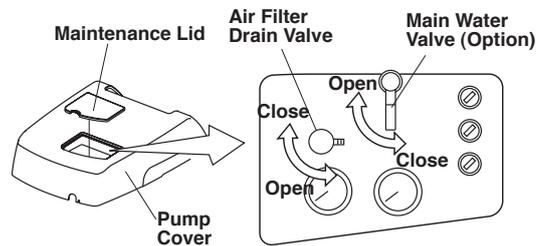

Fig.5-6 Air Filter Drain Valve and Main Water Valve
- (5) Air Filter Drain Valve (Fig.5-6)
- (6) Main Water Valve (Optional)(Fig.5-6)